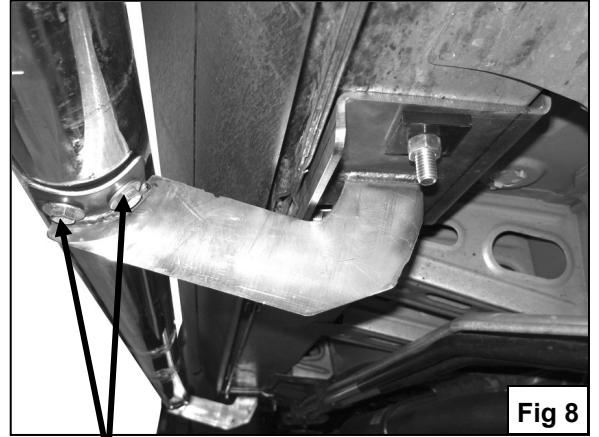

Fig 8
10. Position passenger Sidebar onto Mounting Brackets. Attach Sidebar to Mounting Brackets using the included (4) M8 Hex Head Bolts, (4) M8 Lock Washers, and (4) M8 Flat Washers (Figure 8).